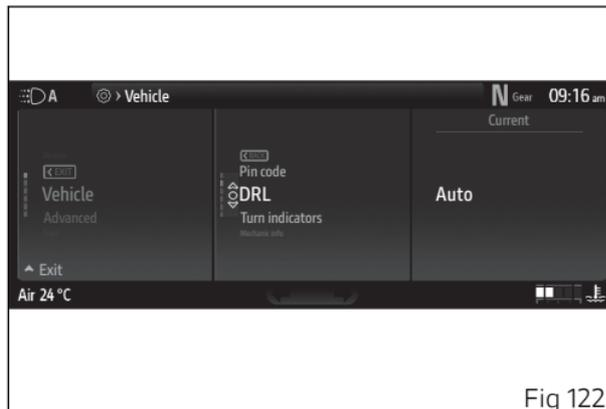

Fig 122
- Select the "DRL" item (Fig 122) and press .